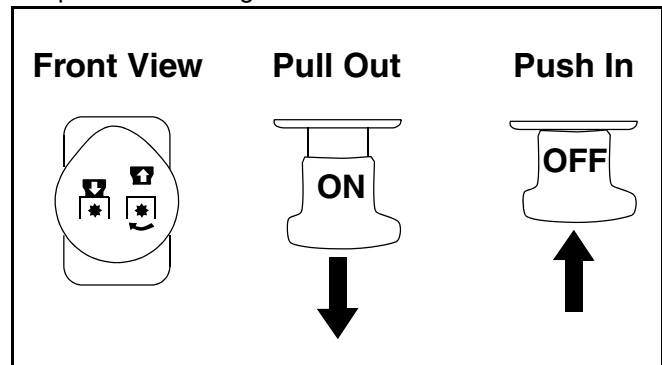

Figure 14
- Pull the PTO knob outward into the engaged (ON) position. See Figure 14.